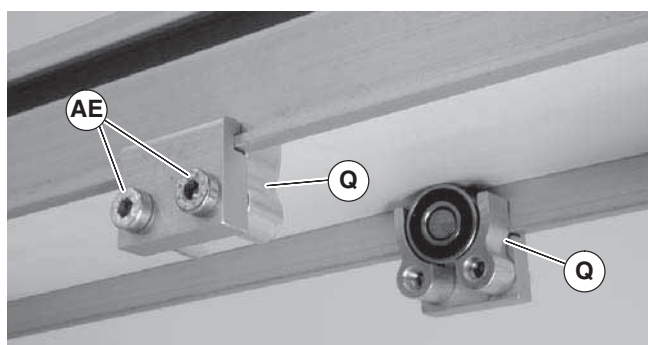

Figure 12
3. Install roller assemblies (Figure 12, item Q) as shown. Tighten screws (AE) to 60 in-lb (7 Nm).